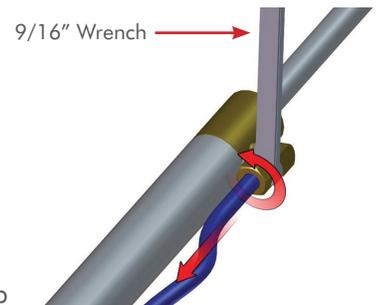
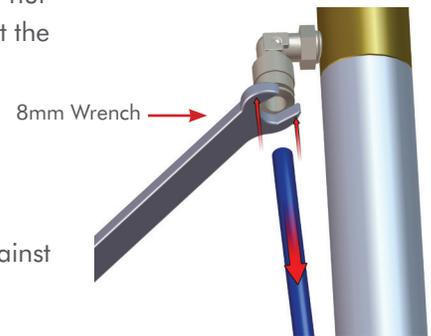

Figure 1
Figure 2
3. **Hydraulic Cylinder:** Using a 9/16" wrench turn the compression fitting nut counter clock wise (**FIG. 1**) or use a 8mm open ended wrench to press against the ring of fitting to release. (**FIG. 2**)